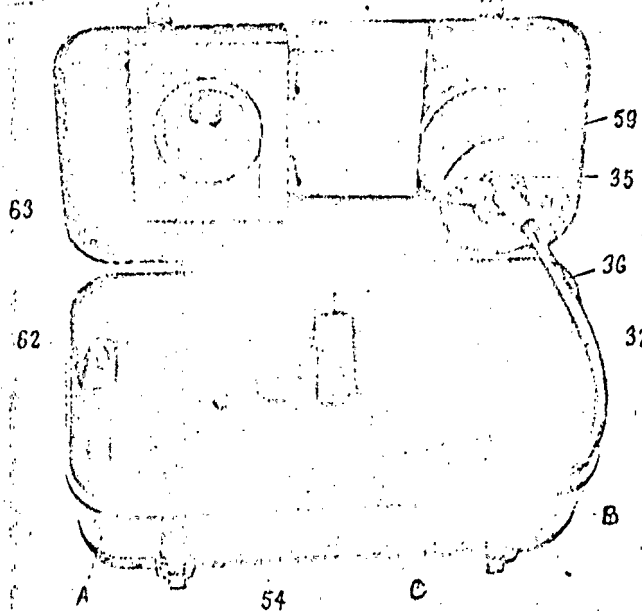

Figure 92. Gun Collimator in Carrying Case:
- the collimator is transported and stored in the carrying case only (figure 92); during transport, it should be protected against shocks and vibration;